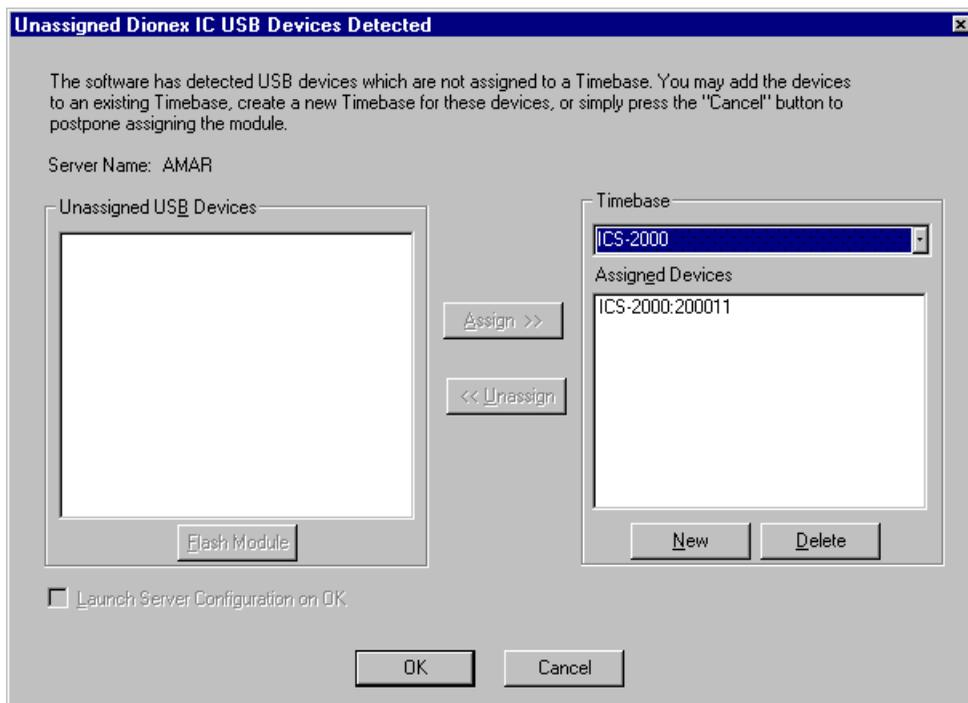

Figure B-11. ICS-2000 Assigned to a Timebase
7. In the Unassigned USB Devices box, select the ICS-2000 and then click the **Assign** button. The ICS-2000 is now assigned to the timebase (see Figure B-11). If you are installing more than one ICS-2000, you can verify the serial numbers for each by checking the label on the component panel. The serial number is also shown on the **INFORMATION** touch screen page.